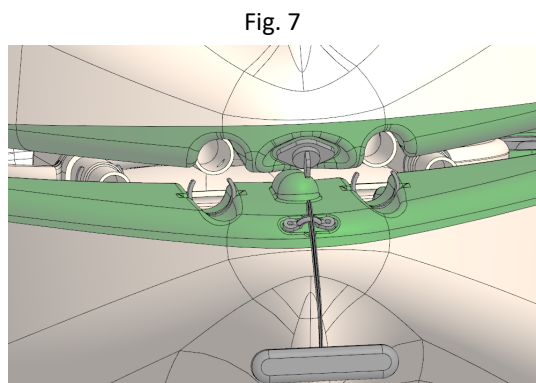
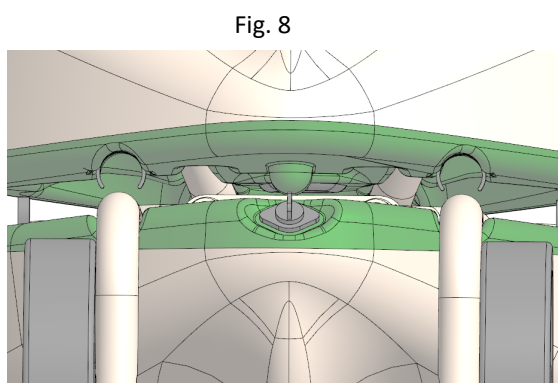
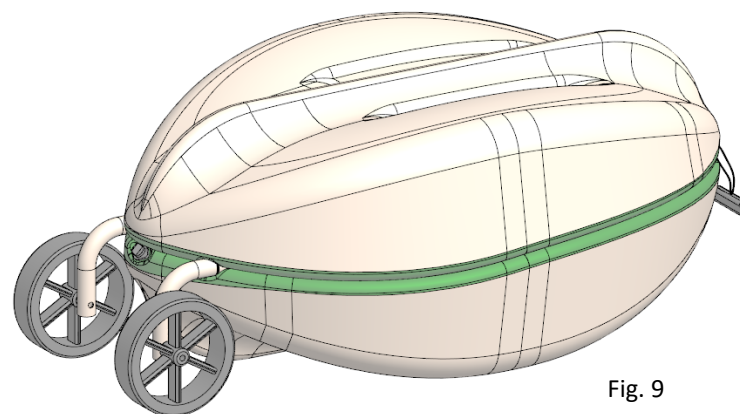

Fig. 7
Fig. 8
Fig. 9
- 7) Turn the **FRONT FLOAT** over along its long axis and place it on top of the **BACK FLOAT**. There are two clips on the rear of the **BACK FLOAT** that line up with the frames on the **FRONT FLOAT** (fig. 7) and two clips on the **FRONT FLOAT** that line up with the frames on the **BACK FLOAT** (fig. 8). Once they are lined up, press down on the **FRONT FLOAT** until the clips snap onto the frames (fig. 9).